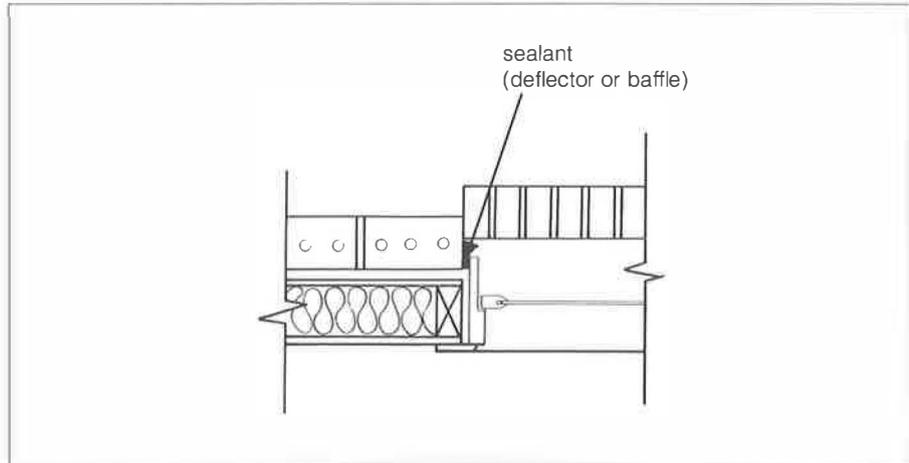

Fig. 28. Direct entry of rain stopped with deflector seal or brick-stop baffle
- Eliminate the possibility of rain entering by covering open holes and by sealing or protecting openings with baffles (*fig. 28*).